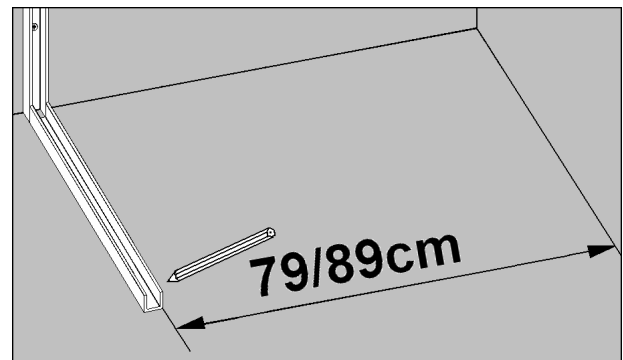

Figure 2
5. Place the shorter U-lath on the floor, set lath's end against the U-lath fixed on the wall. Place the U-lath in parallel with the opposite wall at a distance of **79cm** (door width 80 cm) or **89cm** (door width 90cm) from the wall (**Figure 2**). If you install the shower wall without door, the distance between the shorter U-lath and the opposite wall should be the same as the distance between the U-lath on the wall and the opposite wall. Mark the lath's position on the floor and take the lath off the floor.